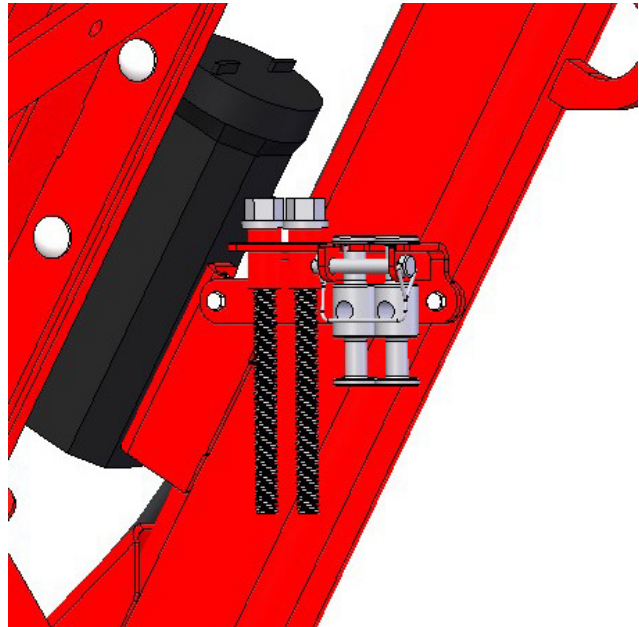

Figure 6.34: Tension bolt and bar storage location
3. Retrieve the tension bolts and bars from the storage location on the rear right frame, behind the document holder; see *Figure 6.34*.